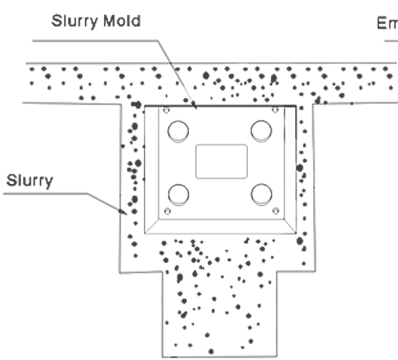

Figure 3
2. Connect to the water source and pressurize the pipeline to 0.7Mpa and check for leaks at connection points. Reinstall the mortar mold and grout any gaps between the control box and the wall and fix tiles down. Once the grout is dry, remove and dispose of the protective cover (Figures 3 and 3a).